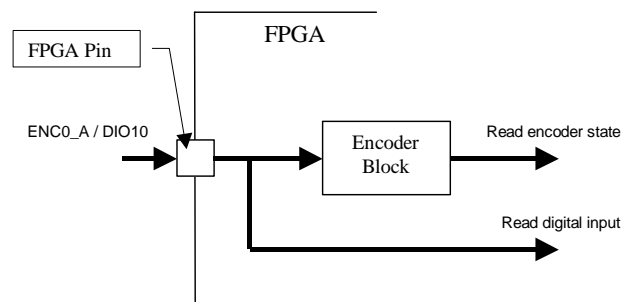
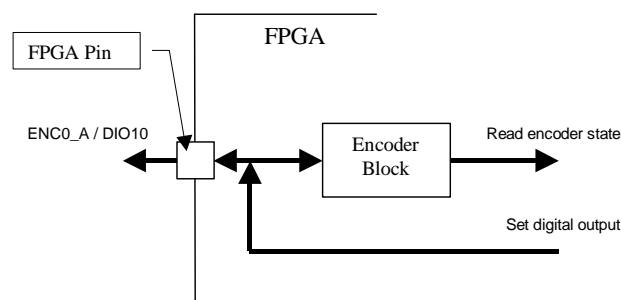

Fig. 4.3. The shared FPGA pin configured as the input
Fig. 4.4. The shared FPGA pin configured as the output
- the second kind of the specialized blocks contains only the digital input signals (the incremental encoders and counters). In this case it is not necessary to select the operating mode of the encoder and counter signals. If the appropriate general purpose I/O signals are configured to be the inputs then their states can be read by the software and simultaneously the signals excites the specialized block (see Fig. 4.3). If the shared general purpose I/O signals are configured to be outputs their states can be set by the software and simultaneously the signals excites the specialized block (see Fig. 4.4). This operating mode can be applied for testing of the specialized blocks – for example the encoder can be excited and read in a software manner. This testing strategy is not significant during common device applications. It may be very useful when a user wants to design and test his own FPGA blocks (see “*USB Device XILINX Programming Guide*”)